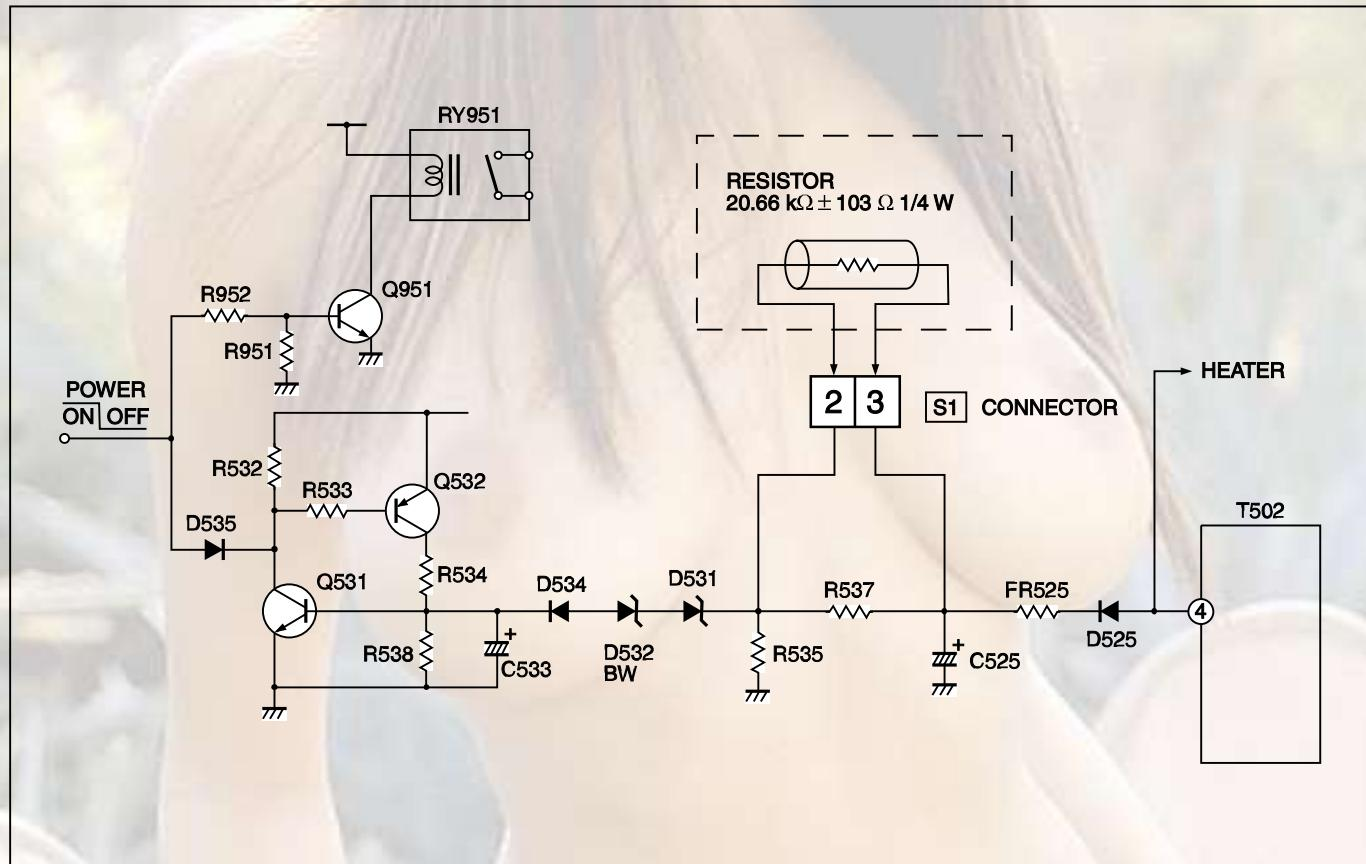

Fig. 1
After repairing the high voltage hold down circuit shown in Fig. 1.
- (1) Turn the POWER SW ON.
- (2) As shown in Fig. 1, set the resistor (between S1 connector 2 & 3).
- (3) Make sure that the screen picture disappears.
- (4) Temporarily unplug the power cord.
- (5) Remove the resistor (between S1 connector 2 & 3).
- (6) Again plug the power cord, make sure that the normal picture is displayed on the screen.